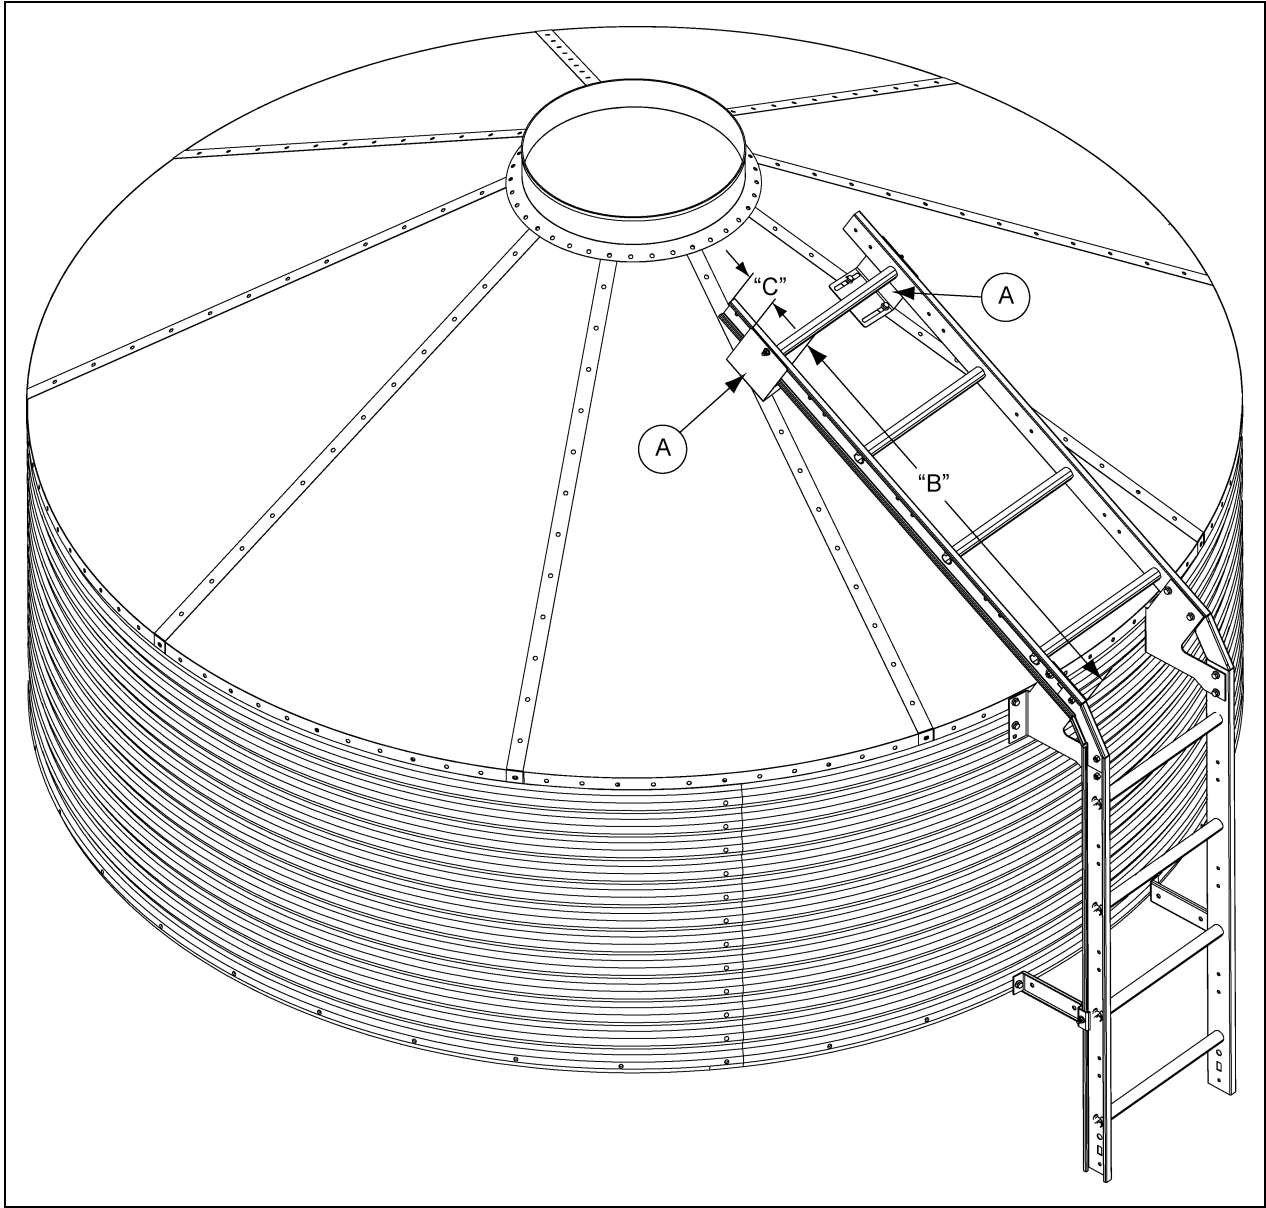

Figure 8J Maximum Allowable Distance
**NOTE:** The roof ladder supports must be assembled so that the maximum distances are not exceeded. See Figure 8J on Page 35 and the “maximum distances chart” to determine maximum allowable spacing of support brackets.